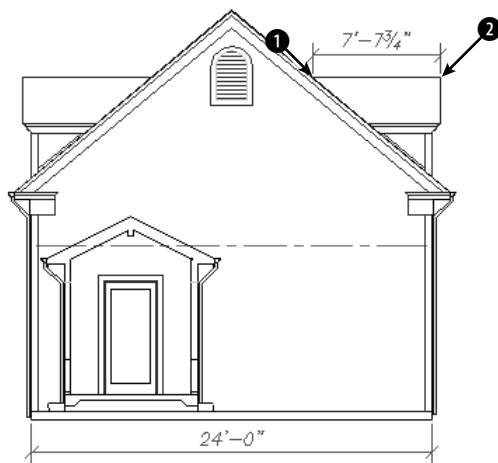

Figure 15-26: The dimension style is now complete.
10. To see how the stacked fractions appear, create a linear dimension from ❶ to ❷ in Figure 15-26. If necessary, zoom in to see the dimension text clearly.
11. Return to the previous view if you zoomed in. Save your drawing. It should look like Figure 15-26.